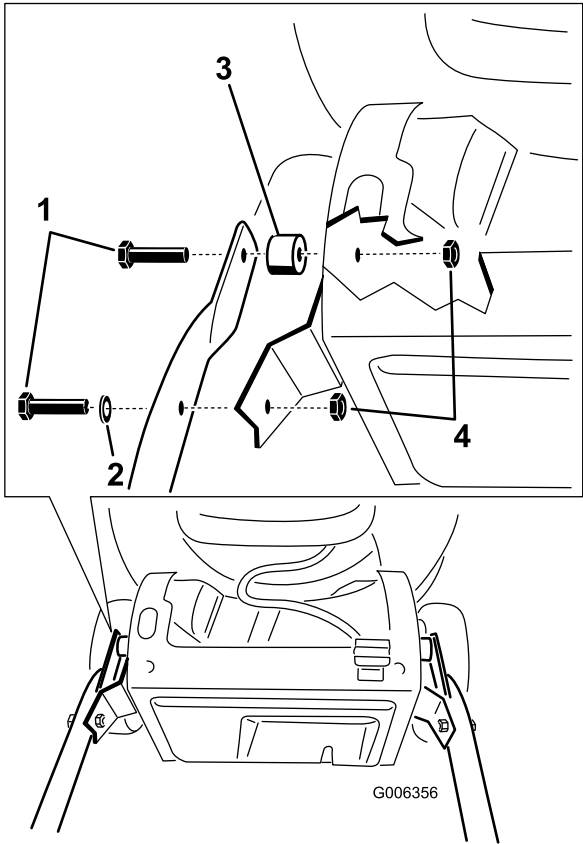

Figure 4
2. Attach the handle to the mower housing (Figure 4) using the 4 bolts, 4 locknuts, 2 spacers, and 2 curved washers in the loose parts bag.